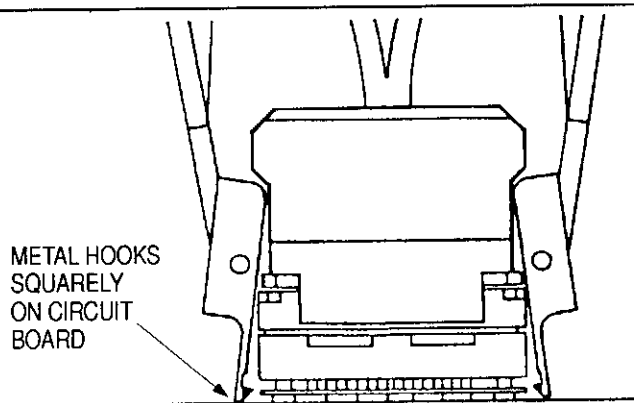

Figure 6
2. Place the insertion tool directly over both the housing and the cover-and-PQFP assembly. Make sure that both of the metal hooks lie squarely on the printed circuit board (see Figure 6).